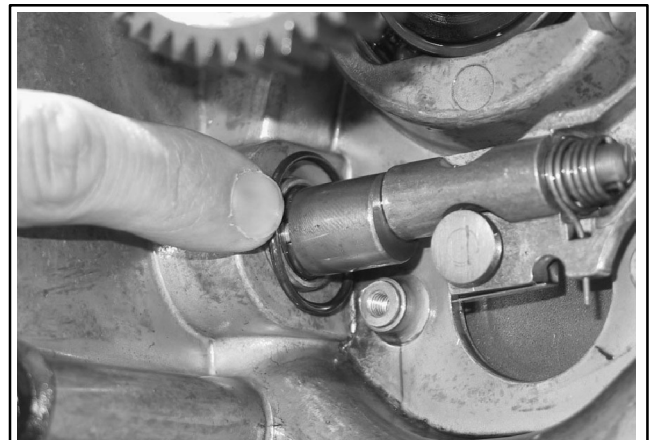

Figure 10-77 Inner Retainer Ring
10. Push the eccentric speed shaft further until it locks with the inner retainer ring. See Figure 10-77.